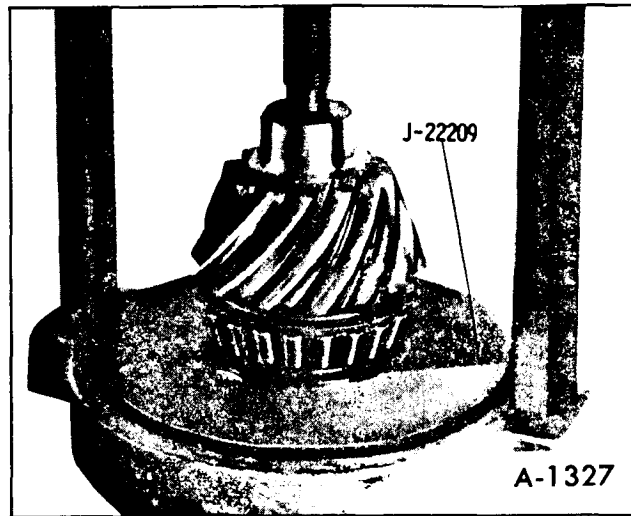

Figure 39-Installing Pinion Rear Bearing
12. Install rear pinion bearing as shown in Figure 39.